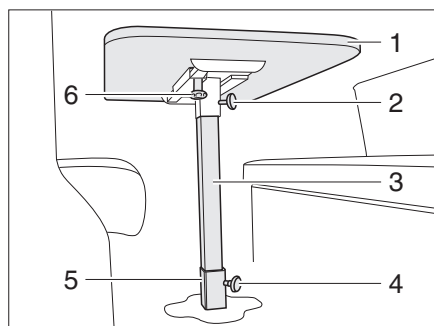

Fig. 39 Fixed table of the rear seating group
- Undo the knurled screw (Fig. 39,6).
- Move the table-top (Fig. 39,1) to the desired position.
- Undo the knurled screw (Fig. 39,2).
- Lift off the table-top (Fig. 39,1).
- Undo the knurled screw (Fig. 39,4).
- Turn the table leg (Fig. 39,3) out of the base holder (Fig. 39,5).